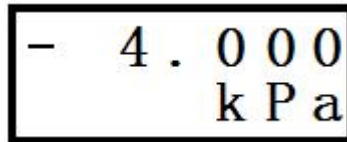

Figure29
5.7 Enter "Right" once to change the character from "+" to "-", as shown in Figure 29;